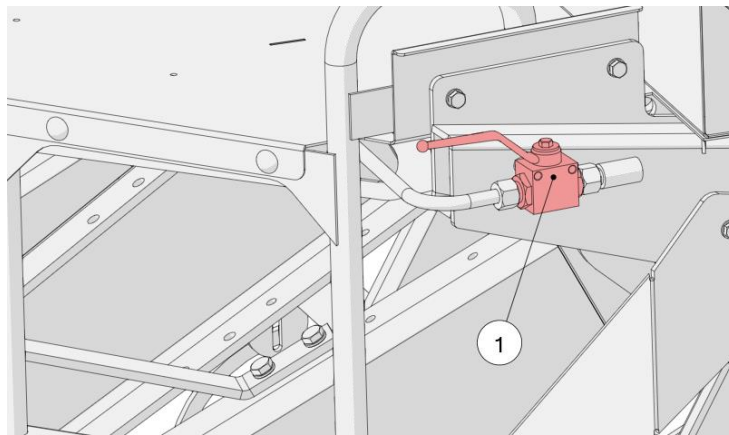

Figure 49. The shut-off valve of the rear flap
A hydraulic shut-off valve (1) is used to protect the rear flap against unintentional lowering (Figure 49). To do this, open the rear flap, and then turn the shut-off valve (1) to the closed position. To unlock the rear chamber, turn the valve to the working position and close the chamber.